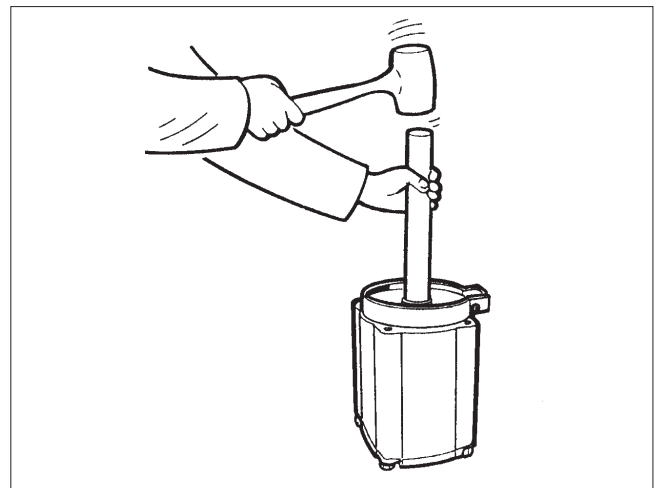
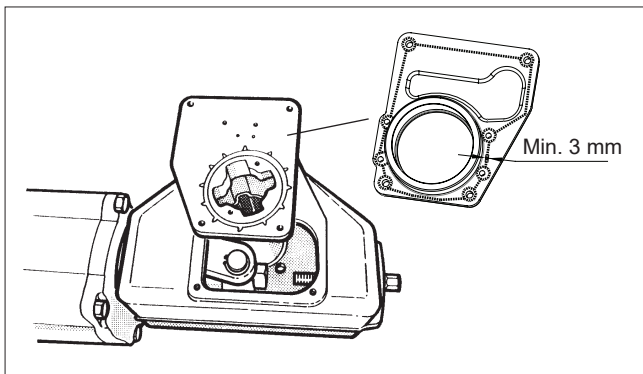
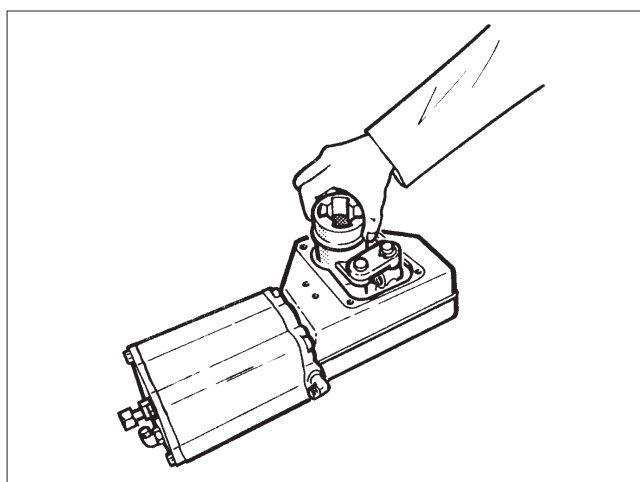

Fig. 11 Placing the piston in the cylinder
Fig. 12 Mounting the cover on the housing
Fig. 13 Removing the linkage from the housing
- Knock or press the piston through the tie ring with a press, Fig. 11.
- Mount the O-ring (19) and the cylinder and piston. Note the location of the air inlet: use the air inlet of the cylinder base as a guide. Tighten the screws (31). See Table 2 for torques.
- Apply locking sealant e.g. Loctite 225 to the threads of the fastening screw (29) of the bearing unit and tighten it. See Table 2 for torque.
- Fasten the housing cover temporarily so that the linkage bearings (3) function, but the linkage is still visible, Fig. 12. Note the grounding rings (3A, 4A).
- Install new pressure outlet valve (58) on to housing cover.
- Clean housing and cover contact area. Apply proper amount (min. 3 mm diameter continuous path, as shown in Fig. 12) of sealant, e.g. silicone mass, to the interface between housing and cover.
- Turn the lever (3) so that the bearing unit is detached from the piston rod (10). Lift the entire lever system out of the housing, Figure 13.
- Remove the lever bearings (23), the O-rings (17) and the grounding ring (3A).
- Install the grounding ring (3A), the lever bearings (23) and the O-rings (17). The grounding rings (3A and 4A) are needed to meet the ATEX requirements.
- Assemble the linkage and install in the housing. See Figure 13 for the correct position. Note the ring (4A).